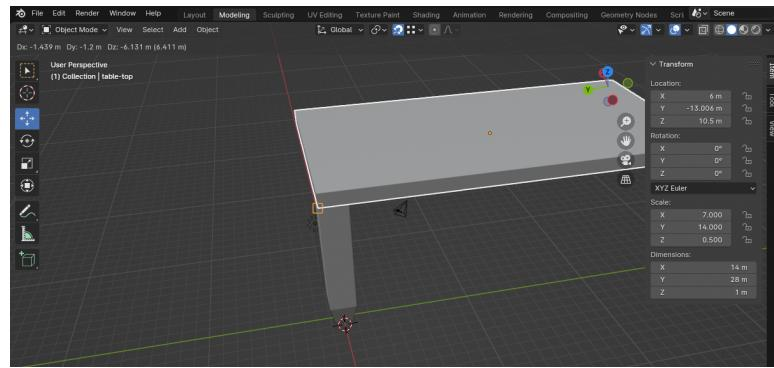

Figure 1.9: Snapping leg to the corner of the table top.
12. Move the table top so that the leg is on the corner of the table top. Use the *Snap To Vertex* tool (select object, press [G], and move the object to activate the snapping vertex) (see Fig.1.9).